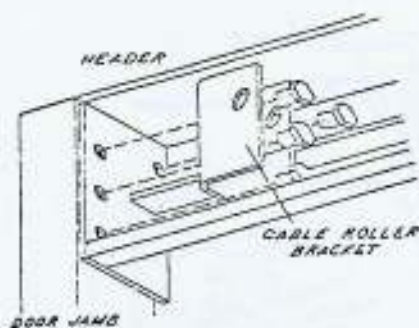

FIG. 6 Installation of pulley bracket.
6. Secure header in place with (4)  $\frac{1}{4}$ -20 H. H. C. S. Screws on the R. H. end and two  $\frac{1}{4}$ -20 H. H. C. S. on the L. H. end. Also install the cable pulley bracket with two  $\frac{1}{4}$ -20 S. H. C. S., as shown in FIG. 6.